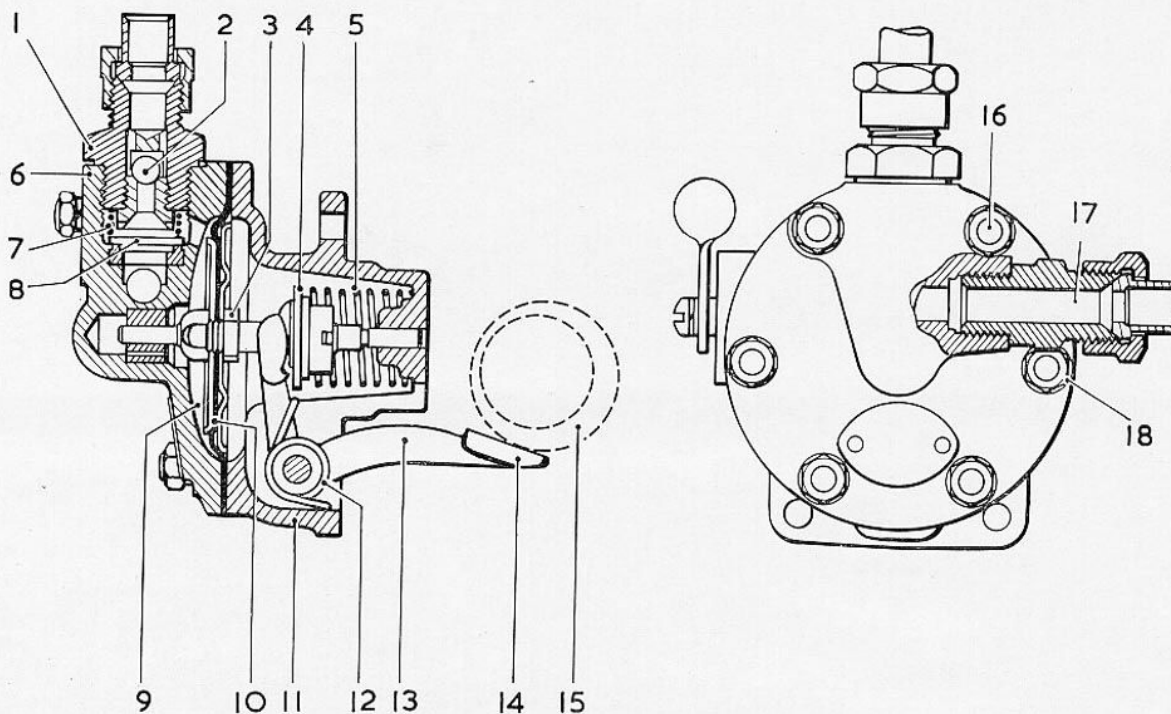

FIG. 1. TYPE DFP3/2S DIAPHRAGM FEED PUMP
Prior to running the governor for the first time, the breather should be removed and a quarter of a pint of good engine oil poured into the cover. Subsequently, oil should be added at regular intervals to maintain the level up to the drain plug (18), Fig. 1.
**OPERATION** (See Fig. 1)
Unscrew union (1) (Fig. 1) to detach disc valve (8) and spring (7). Ball valve (2) can then be dismantled by unscrewing valve seat from union (1).
Unscrew six nuts (18) (Fig. 1) and lift casting (6) clear of studs (16). Do not attempt to detach the diaphragm complete with spindle but carry out the following operations:—
### (a) DFP3/2S (See Fig. 1)